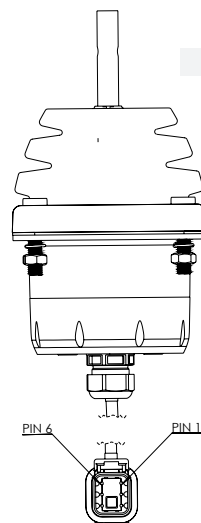

Fig. 1
- Corrector detail: DTM04-6P (Fig 1)